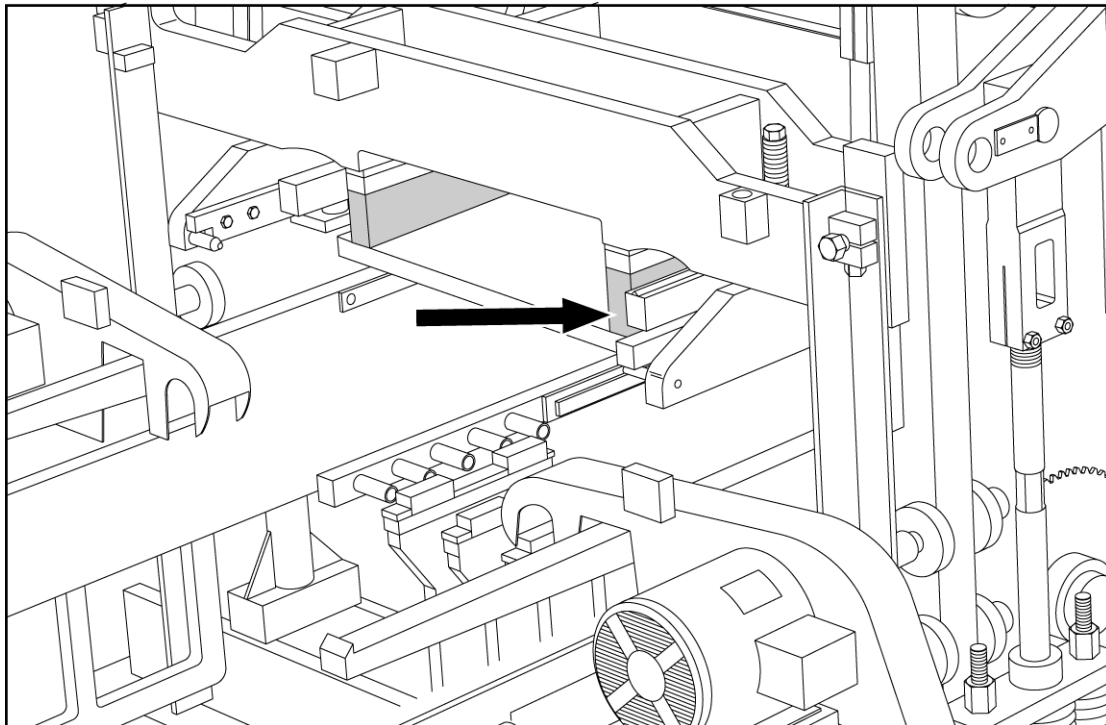

Figure 4.15 4 3/8" [111MM] BLOCKING UNDER STRIPPER HEAD FRAME
- 4.1.8 The ULTRACAC II is now ready for the installation of the mold assembly. Follow the directions for installing an attachment in section 5 of this manual. When installing the stripper head, insert **4 3/8" [111mm]** of blocking in addition to the 1 1/2" [38mm] blocks already affixed to the stripper head frame (figure 4.15). The above blocking assumes a stripper head height of **14 3/16" [360 mm]** from the top of the head plate to the bottom of the shoes.